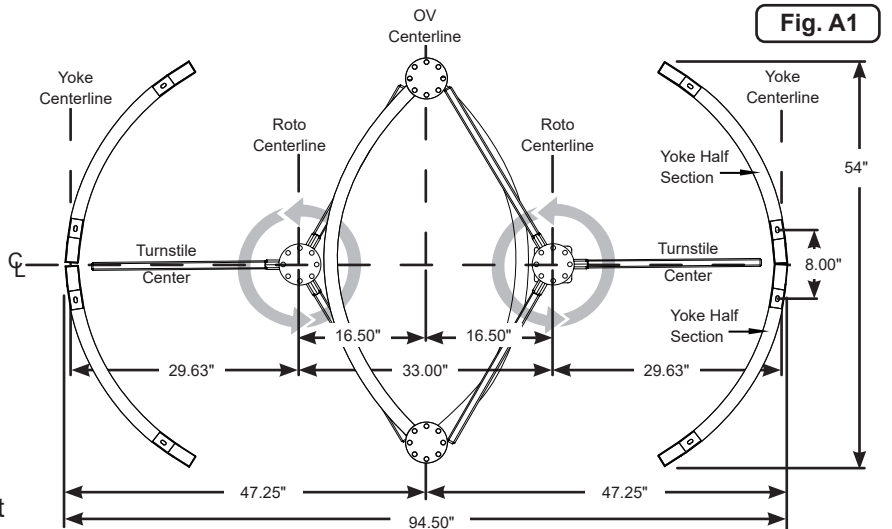

Fig. A1
- Determine where the turnstile will be installed. Consider the overall footprint size of the unit when determining the installation location (Figure A1). Once the installation location has been determined, use a chalk line to mark the centerline of the turnstile.
Prior to drilling the anchor bolt holes, use a tape measure and measure the distance from the bottom bearing plate center to the outer mounting holes on the two Yoke sections (Figure A1). Adjust the Yoke until these two distances are identical. Mark these two locations.